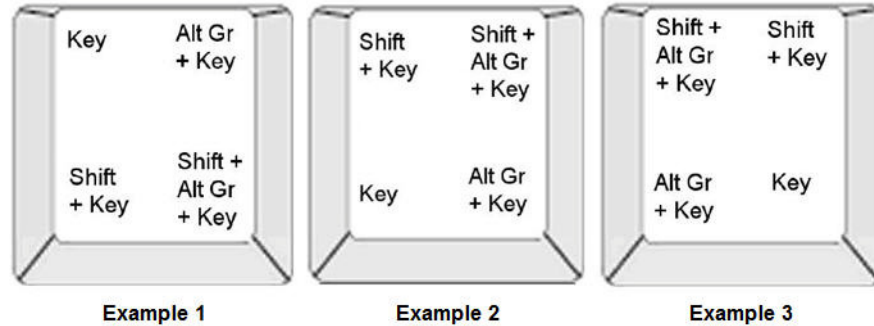

Figure 6 • Keystroke Combinations
Keycaps show characters in one of four positions (see Figure 6). The character position on the physical key indicates how to access the characters with the <Shift> and <Alt Gr> keys.
In Figure 6, Example 1 shows how to access characters in normal operation (caps lock and Alt-GR keys not activated). Example 2 shows how to access characters when caps lock is on. Example 3 shows how to access characters using the Alt-GR key.
2. Type the appropriate keystroke combination (see *Figure 6*). The table shows example keystroke combinations.